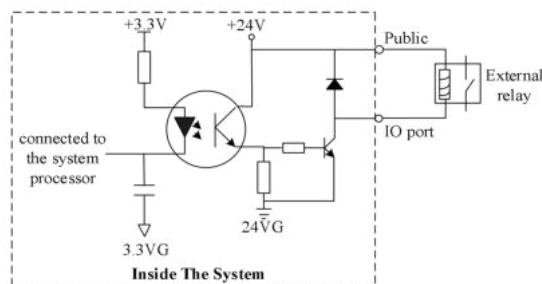

Figure 2.6 Schematic diagram of the output interface circuit
- Its typical output port interface circuit is shown in Figure 2.6.